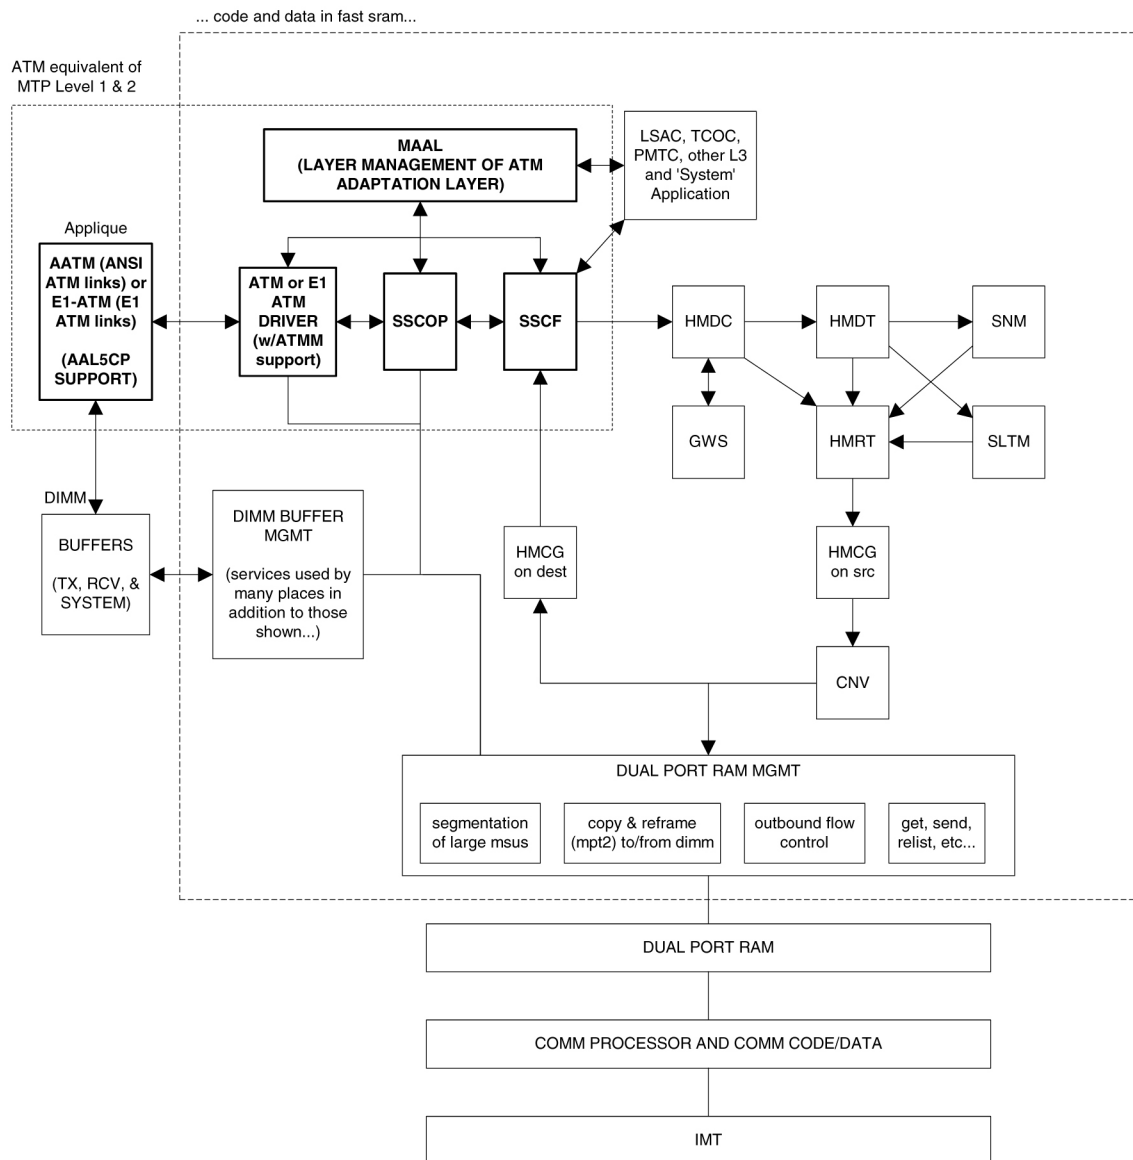

Figure 37: Functional Block Diagram of ATM High-Speed Signaling Link
A functional block diagram of the ATM high-speed signaling link is shown in Figure 37: Functional Block Diagram of ATM High-Speed Signaling Link.
The following sections provide more details for each of the new applications/processes (indicated by the bold boxes in *Figure 37: Functional Block Diagram of ATM High-Speed Signaling Link*) required for the ATM high-speed signaling link implementation. These sections will include information such as:
- support for the E1, ATM, and AAL5CP layers of the ATM high-speed signaling link protocol stack as indicated in *Figure 37: Functional Block Diagram of ATM High-Speed Signaling Link*.